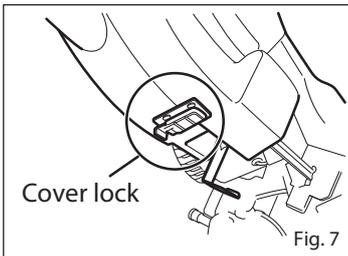

Fig. 7
## 4. Changing the Blade (Figs. 7 ~ 12)
- (1) Open the frame and release the two cover locks on the bottom of the frame. (Fig. 7)